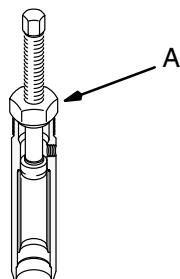

Fig. 19 _____ 02562
5. Screw the sleeve removal tool's large nut (A) into the top of the cylinder. Screw down the rod to push the sleeve out. See Fig. 19. Remove the tool. Clean and inspect the parts.